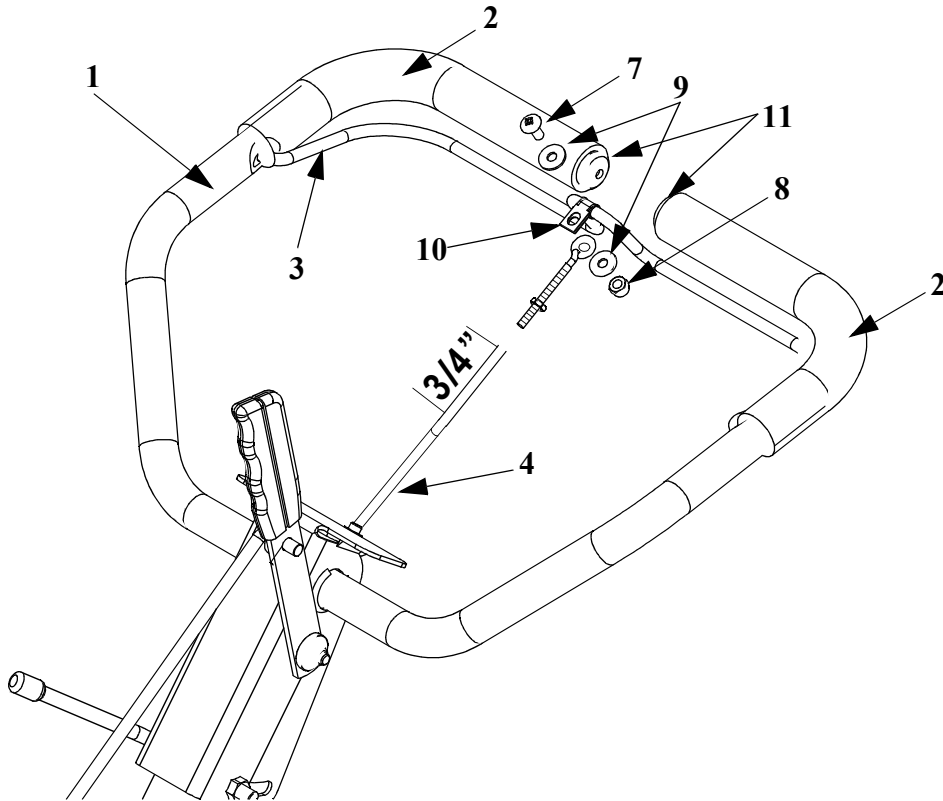

Figure 1
8. Attach the cable to the handle assembly as follows, (see figure 1):
- e) Fasten the threaded eye bolt onto bail as shown in figure 1. The part order from top to bottom is: slot head screw, flat washer, clip, threaded eye bolt, flat washer and nut.